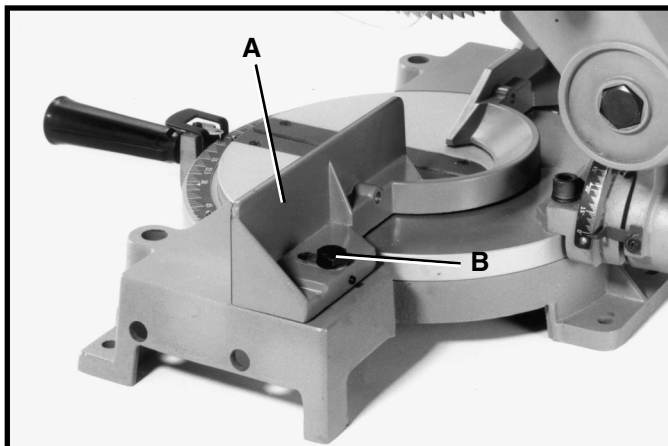
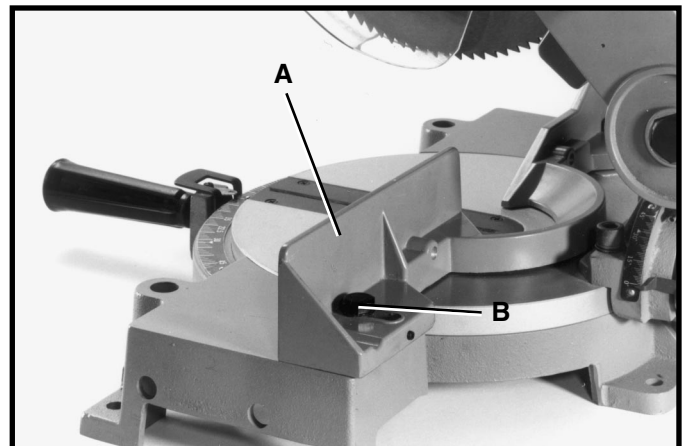

Fig. 19
Fig. 20
The fence (A) on your miter saw can be used in the forward position, as shown in Fig. 19, or in the rear position, as shown in Fig. 20. The forward position, in Fig. 19, is used for cutting workpieces up to a standard 4 x 4 and is the most common fence position.
The rear fence position, shown in Fig. 20, is used when cutting off or beveling standard 2 x 6 workpieces.
To change the fence position (from forward to rear or rear to forward position) loosen the two fence locking screws, one of which is shown at (B) Figs. 19 and 20, position the fence (A) in either the forward or rear position and tighten the two fence locking screws (B).